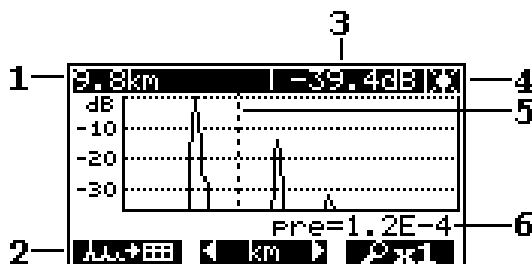

Figure 4.5.14
**ECHO GRAPH** measurement mode can be accessed from **MER/BER** mode by pressing the **F2** key. In this mode you will see the impulse response curve of DVB-T or DVB-T2 channels and also the basic reception quality parameters. The screen view is shown in Figure 4.5.14:
Adjust the marker position using the ◀ and ▶ keys. The echo delay value at the marker position is displayed in position 1, and the echo relative amplitude value is shown in position 4 (see Figure 4.5.14). Use the ▲ and ▼ keys to shift the graph along the amplitude scale.